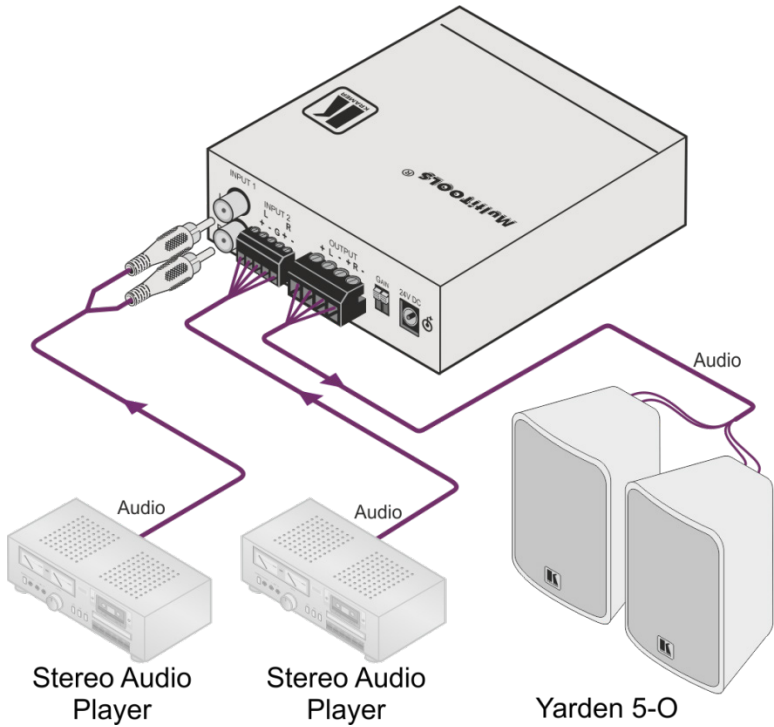

Figure 7: Yarden 5-O Installed
6. Repeat step 5 for the other speaker (see Figure 7).
You can connect the **Yarden 5-O** speakers to an amplifier, for example the Kramer **907xI** Power Amplifier/Mixer, as illustrated in Figure 7: